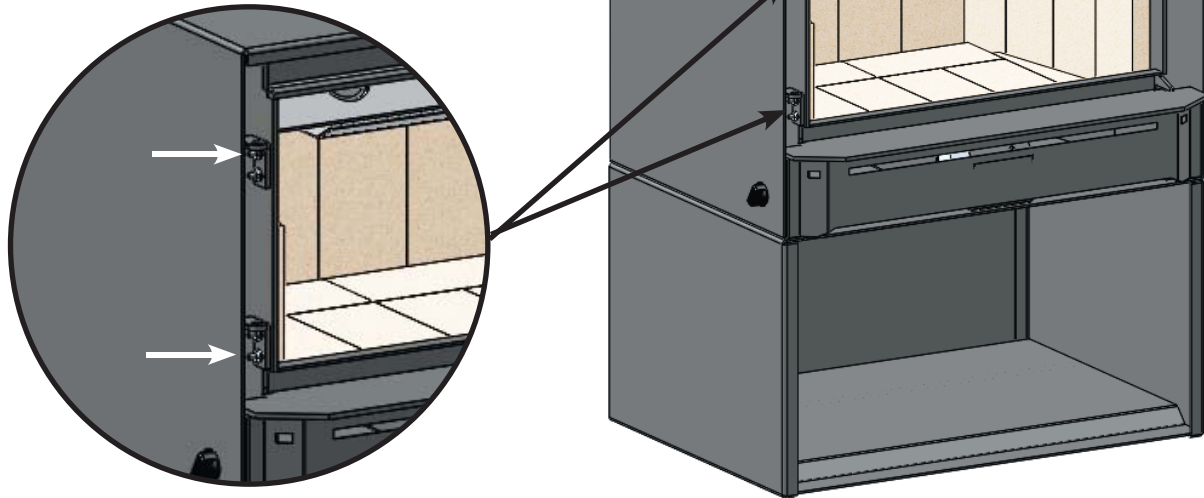

Fig. 3
4. Loosen the four door hinge nuts using a 7/16" wrench. Slide door hinges in to tighten door seal and out to loosen door seal. (**Fig. 3**)